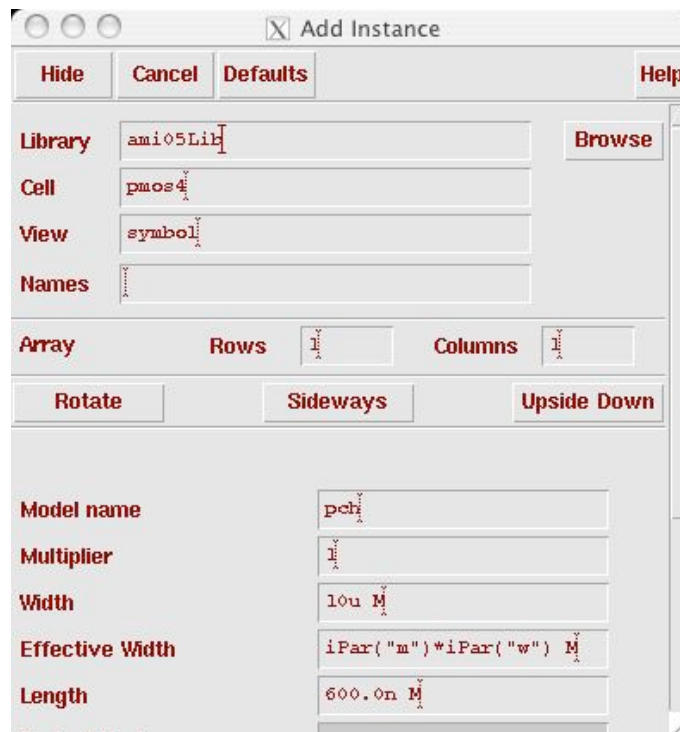
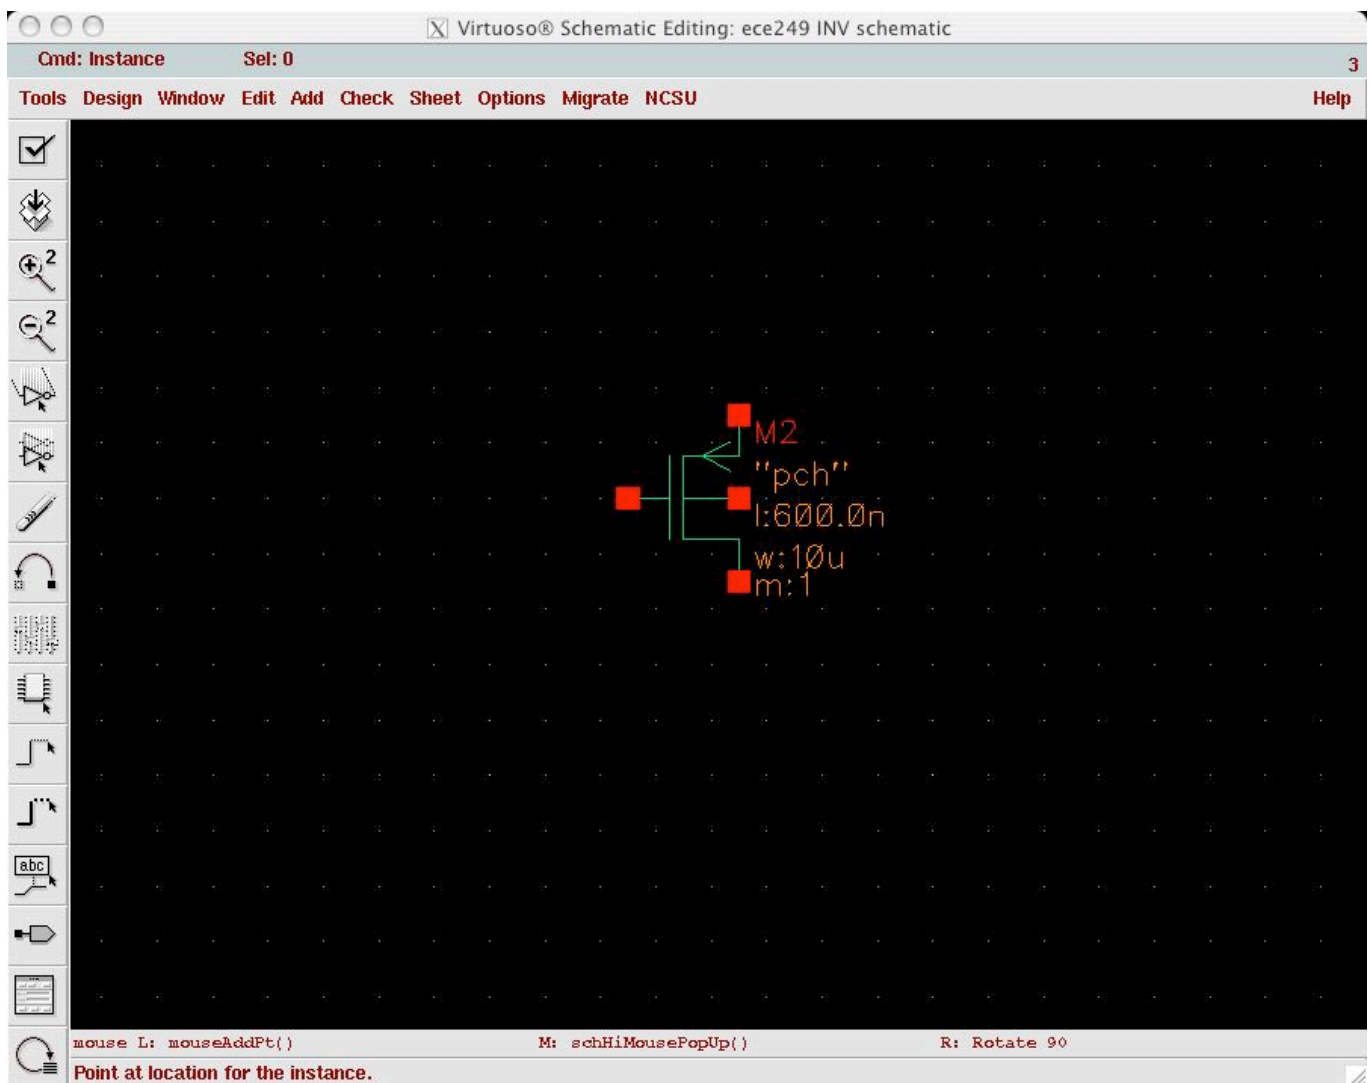

Fig. 6. Add instance window.
Fig. 7. Stamping *pmos* device.
**Step 4:** Select *ami05Lib* in *Library*, *pmos4* in *Cell*, and *symbol* in *View*. The Add instance window should now have the pmos information filled in as in Fig. 6. Stamp a *pmos* device symbol in the *Virtuoso Schematic Editing* window, as shown in Fig. 7.